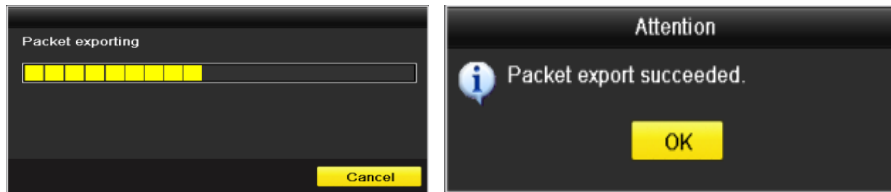

Figure 12-34 Packet Export Attention
Step 5 After the exporting is complete, click **OK** to finish the packet export, as shown in Figure 12-34.